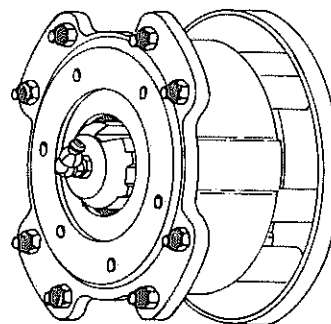

Fig. 57
P.T.O. Shaft Slip clutch adjustment, see Fig. 57.
1. Completely loosen all nuts (8) so that the springs just make contact OR loosen all the way then re-tighten until they just make contact.